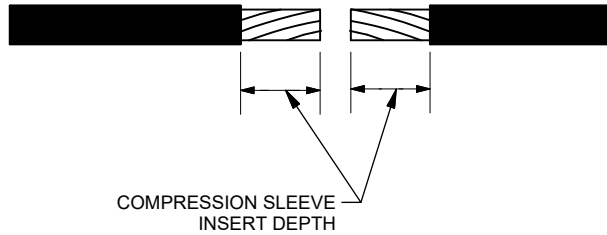

Figure 2
2. Check the insert depth of the compression sleeve being used. Remove the length of cable insulation on each cable that corresponds to the insert depth of the compression sleeve. See Figure 2.